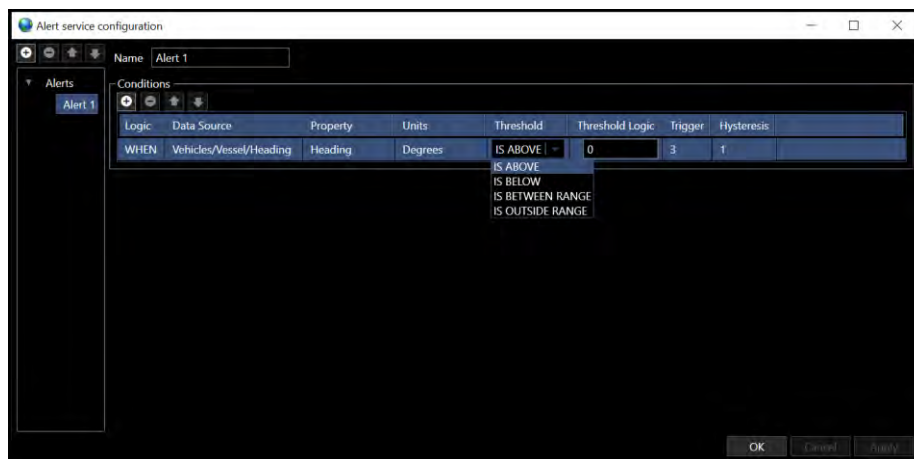

FIGURE 21-9 ALERT – THRESHOLD SELECTION
- e. **Threshold:** From the drop-down, select one of the following as a condition for the alert (see Figure 21-9)